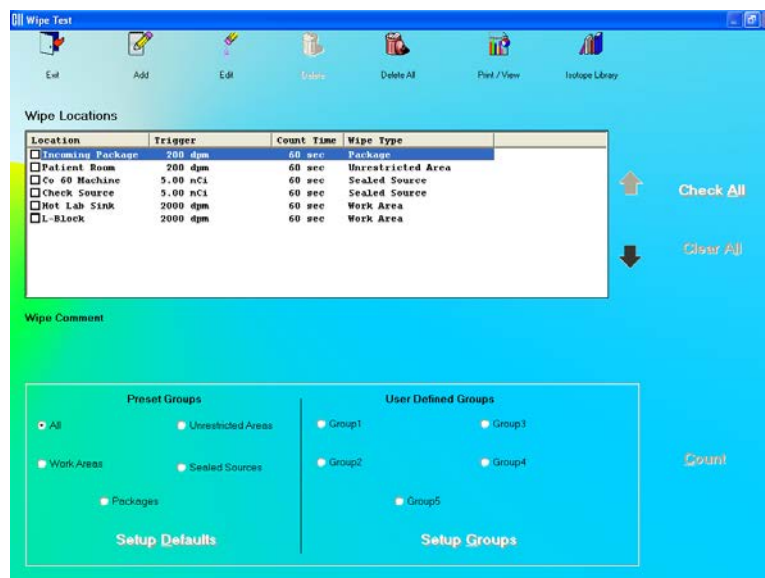
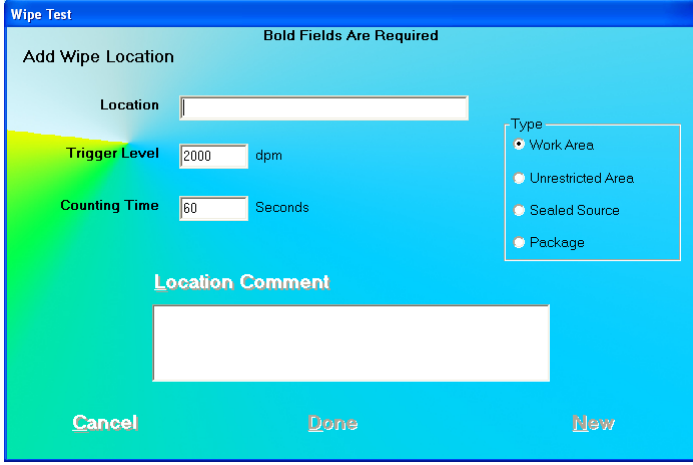
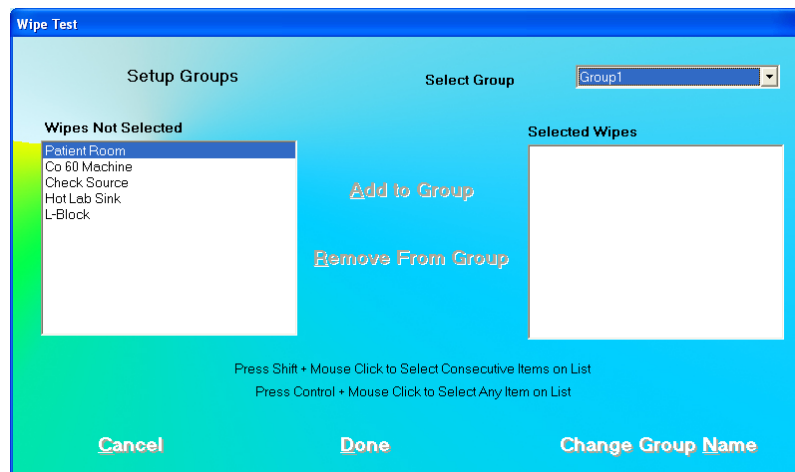

Figure 8-2 Main Wipe Test Screen
Figure 8-5 Add Wipe Location Screen
Figure 8-6 Setup Groups Screen
The Wipe Test screen appears, as shown in Figure 8-2 Main Wipe Test Screen.
from Figure 8-2 Main Wipe Test Screen, click the  icon or press the *Esc* key.
1. Click the  button or *Alt+D* at the bottom of Figure 8-2 Main Wipe Test Screen. Figure 8-3 Wipe Test Setup Screen will appear.
3. Click the **Done** button to save changes or click the **Cancel** button to cancel the changes and Figure 8-2 Main Wipe Test Screen.
- Click the  button or press *Alt+R* to return to Figure 8-2 Main Wipe Test Screen.
1. Click the  icon on Figure 8-2 Main Wipe Test Screen. Figure 8-5 Add Wipe Location Screen will appear.
Note: The comments entered will be displayed in the **Wipe Comment** box immediately below the **Wipe Locations** box on Figure 8-2 Main Wipe Test Screen when the location is selected. The comments will also appear in the Wipe Test results.
7. Click the **Done** button or press *Alt+D* to save changes or click the **Cancel** button or press *Alt+C* to cancel the changes and return to Figure 8-2 Main Wipe Test Screen.
1. Click the **Setup Groups** button or press *Alt+G* on Figure 8-2 Main Wipe Test Screen. Figure 8-6 will appear.
- b. Click the **Done** button to save changes or click the **Cancel** button to cancel the changed name and return to Figure 8-6 Setup Groups Screen.
6. Click the **Done** button on Figure 8-6 Setup Groups Screen to save changes or click the **Cancel** button to cancel the changes and return to Figure 8-2 Main Wipe Test Screen.
1. From Figure 8-2 Main Wipe Test Screen, select a group in the **Preset Groups** or **User Defined Groups** frame by clicking in its radio button to view only those wipe locations that belong to that group. For example, selecting the Work Areas group will display all locations entered with Type as Work Area. Selecting Group 2 will show all locations that you added to Group 2. Selecting ALL will show all the existing wipe locations in all the groups.